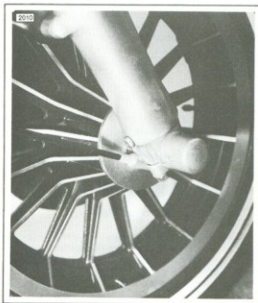

Figure 2-69. Fork Drain Plug
3. See Figure 2-69. Remove the drain plug from the bottom of the fork.
2. See Figure 2-69. Remove the drain plug from the bottom of the fork.